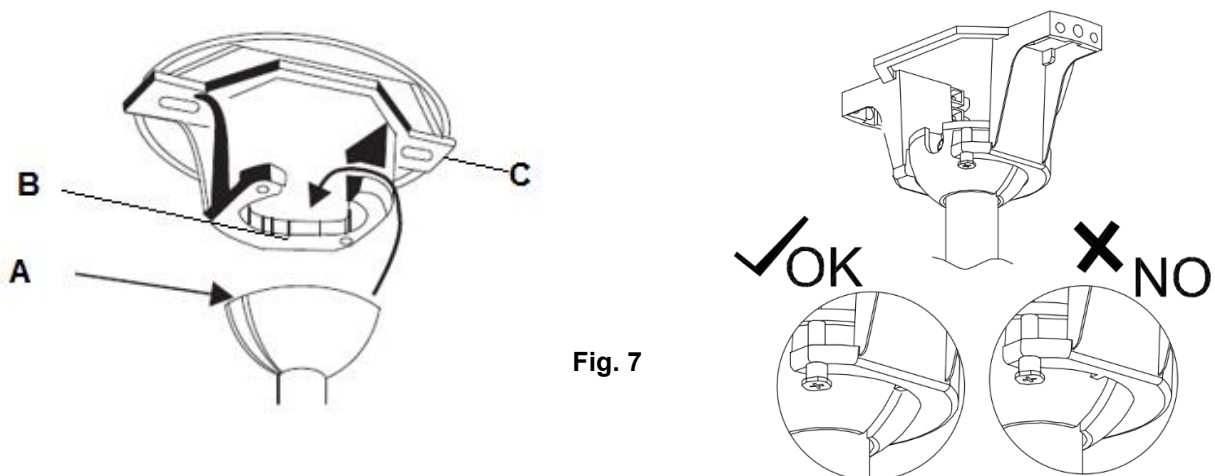

Fig. 7
Lift the fan assembly onto the mounting bracket. Ensure the key slot (A) of the hanger ball is positioned on the key pin (B) of the mounting bracket (C) to prevent the fan from rotating when in operation. (Fig.7)